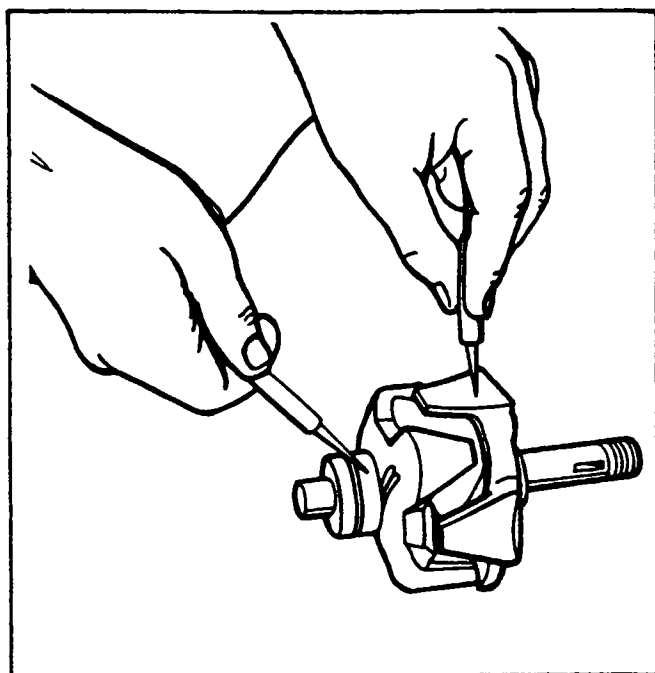
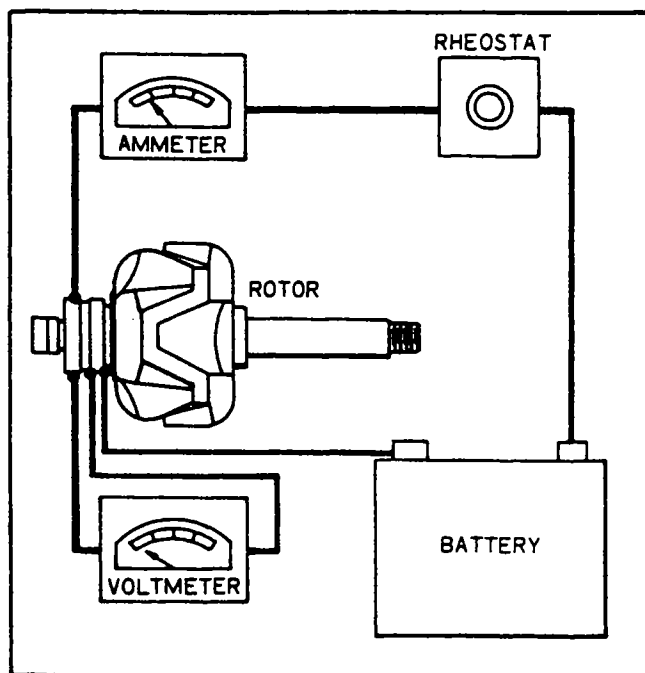

Figure 11-4. Testing Rotor for Ground
Figure 11-5. Testing Rotor for Shorts
a. **Rotor:** The rotor should be tested for grounded or shorted windings. The ground test can be made with test probes, connected in series with a 110-volt test lamp, an ohmmeter, or any type of continuity tester. (Refer to Figure 11-4.) There must not be any continuity between the slip rings and the rotor shaft or poles. To test for shorted turns in the rotor winding, connect a voltmeter, ammeter, and rheostat as shown in Figure 11-5 or use an ohmmeter. Rotor current draw and resistance are listed in the Alternator Service Test Specifications paragraph. Excessive current draw or low ohmmeter reading indicates shorted windings. No current draw or infinite ohmmeter reading would indicate an open winding.